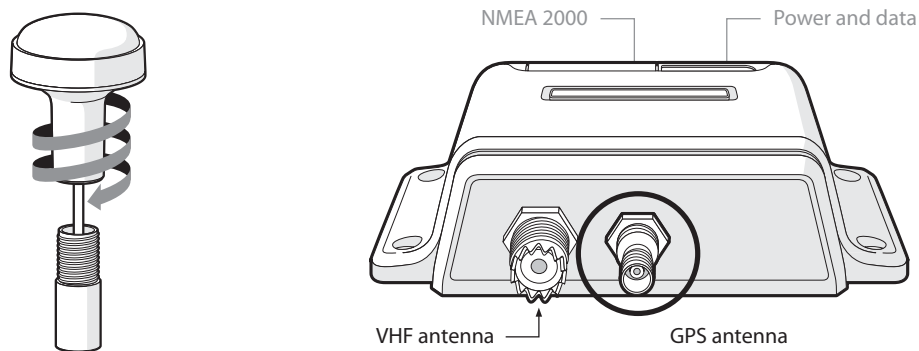

Figure 7 GPS antenna mounting and connection
1. Feed the ten metre long cable attached to the GPS antenna cable through the pole, and screw the antenna onto the pole mount as shown in Figure 7.
3. Connect the cable from the GPS antenna to the GPS connector on the AIS transceiver as shown in Figure 7.